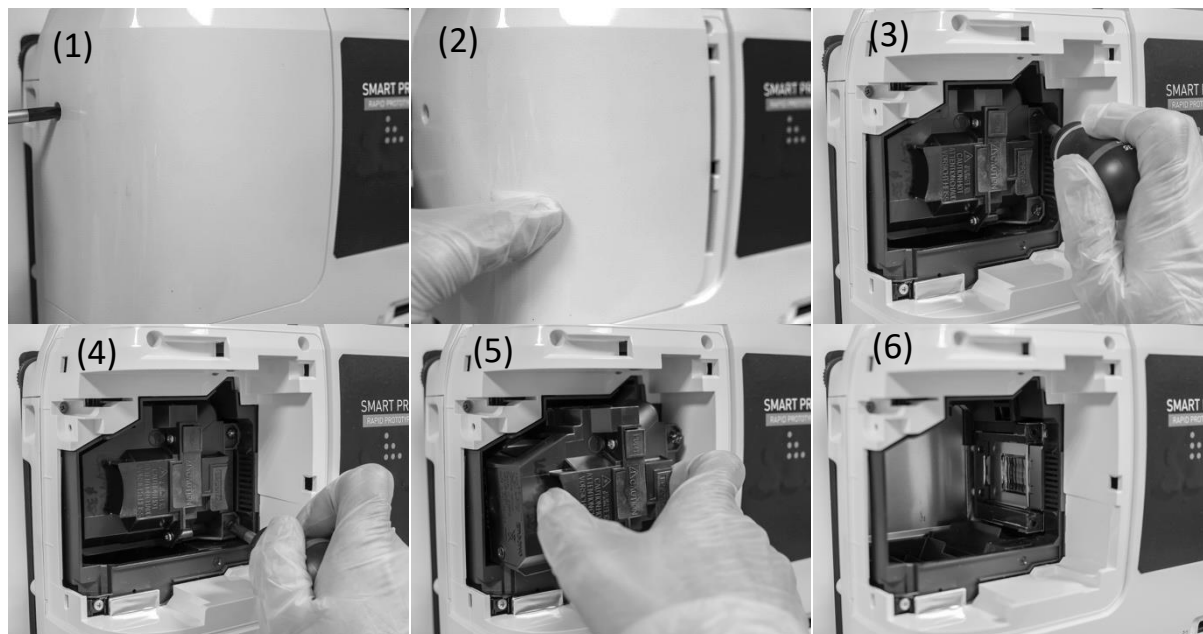

Figure 73 – main steps for lamp replacement
- a. Open the lamp cover (Figure 2) with a Phillips PH1 screwdriver (Figure 73 (1) and (2))
- b. Unscrew the lamp block (Figure 73 (3) and (4))
- c. Pull out the lamp block (Figure 73 (5) and (6))